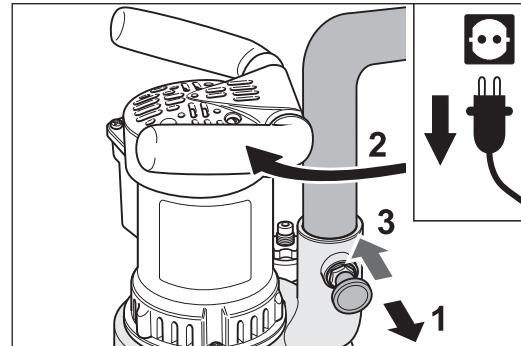

Fig. 33 Pull out the stop bolt (1) and simultaneously turn the pipe socket (2). Then release the stop bolt (3). It must snap into place in the pipe socket!
- 1 Pull out the stop bolt in the fan house (fig. 33, 1).
- 2 At the same time, turn the pipe socket until the dust bag is positioned over the attachment (fig. 33, 2) and the stop bolt noticeably snaps into place in the pipe socket when released (fig. 33, 3).